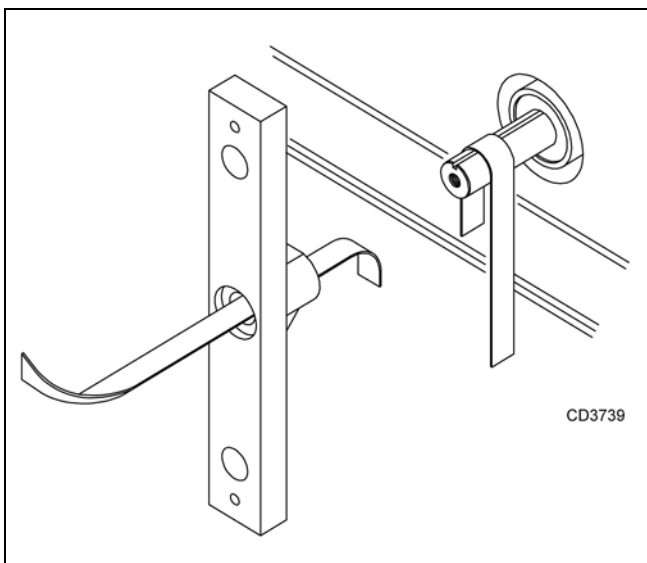

Figure 20.
1. Using emery cloth (220 or finer), remove surface rust, Loctite® and foreign material from hub, splined gearbox, vertical shaft, and crossbar as shown in Figure 20.
2. Install crossbar (2) on splined shaft. Install washer, castle nut, and cotter pin. Torque nut to 200 lbs-ft.